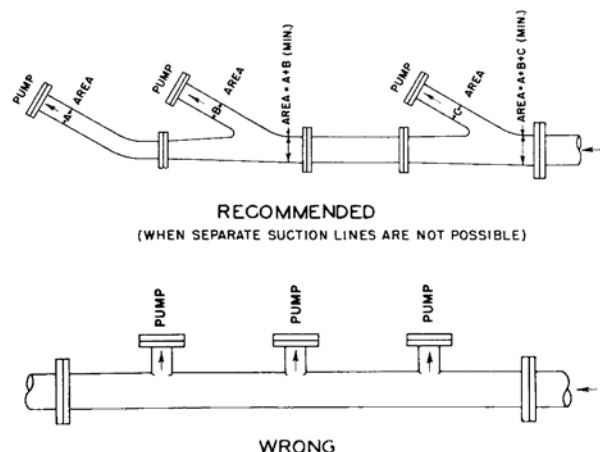

Figure 7:
- d) When more than one pump is operating from the same source of supply, separate suction lines, if possible, should be used. If not possible for separate lines, piping arrangement as shown in Figure 7: on page 17 is recommended.